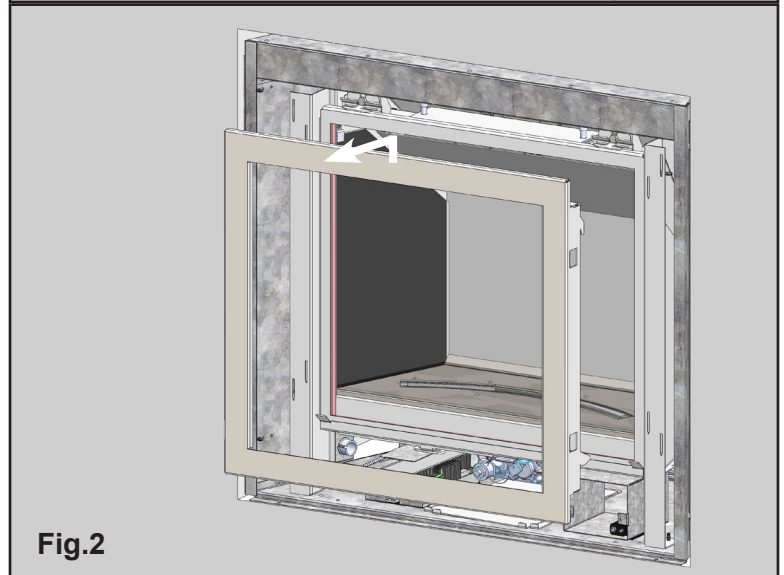

Fig.2
3. Lift the safety screen up and out, away from the appliance, and set it aside. **(Fig.2)**